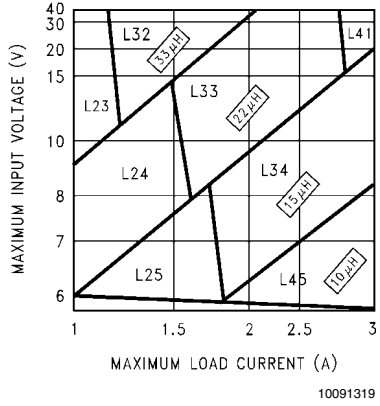
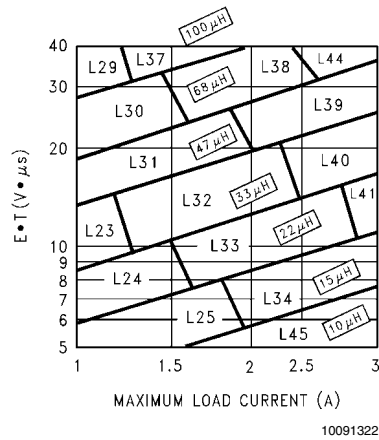

FIGURE 3. LM2673-3.3
FIGURE 6. LM2673-ADJ
**Step 3:** Determine the inductor required by using one of the four nomographs, *Figure 3* through *Figure 6*. Table 1 provides a specific manufacturer and part number for the inductor.
**Step 5:** Determine an input capacitor from Table 4 for fixed output voltage applications. Use Table 2 to find the specific capacitor type. For adjustable output circuits select a capacitor from Table 2 with a sufficient working voltage (WV) rating greater than  $V_{in\ max}$ , and an rms current rating greater than one-half the maximum load current (2 or more capacitors in parallel may be required).
**Step 3:** Use the nomograph for the 3.3V device, *Figure 3*. The intersection of the 16V horizontal line ( $V_{in\ max}$ ) and the 2.5A vertical line ( $I_{load\ max}$ ) indicates that L33, a 22 $\mu$ H inductor, is required.
**Step 3:** To use the nomograph for the adjustable device, *Figure 6*, requires a calculation of the inductor Volt•microsecond constant ( $E \cdot T$  expressed in  $V \cdot \mu S$ ) from the following formula:
Using *Figure 6*, the intersection of  $27V \cdot \mu S$  horizontally and the  $2A$  vertical line ( $I_{load\ max}$ ) indicates that L38, a  $68\mu H$  inductor, should be used.
**Important Note:** When using the adjustable device in low voltage applications (less than  $3V$  output), if the nomograph, *Figure 6*, selects an inductance of  $22\mu H$  or less, Table 6 does not provide an output capacitor solution. With these conditions the number of output capacitors required for stable operation becomes impractical. It is recommended to use either a  $33\mu H$  or  $47\mu H$  inductor and the output capacitors from Table 6.